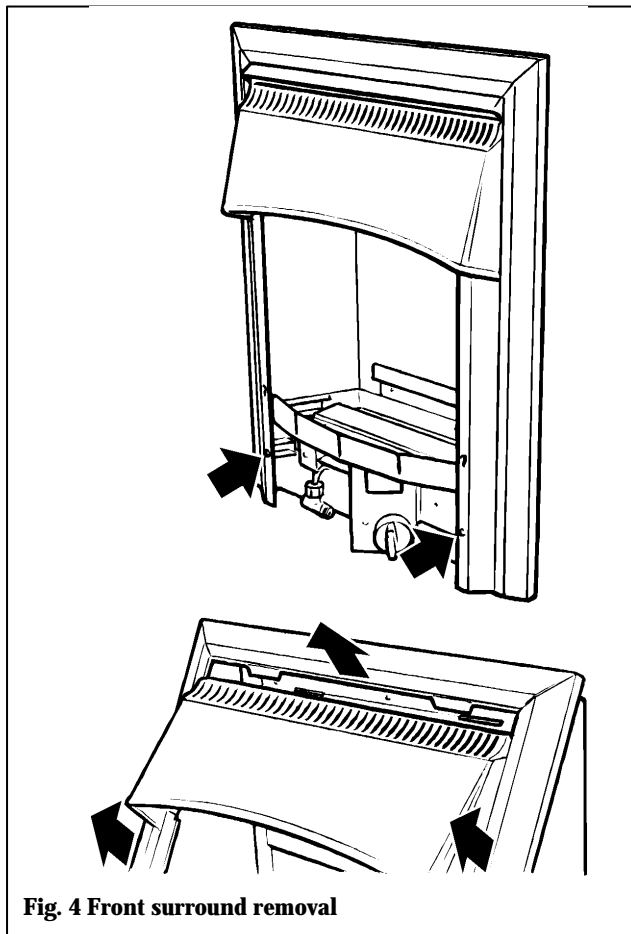

Fig. 4 Front surround removal
6.1 Remove the two screws securing the bottom of the front surround to the sides of the convection box. Raise the front surround to allow the retaining lugs at the top to clear the slots in the convection box hood and then lift clear (see figure 4).